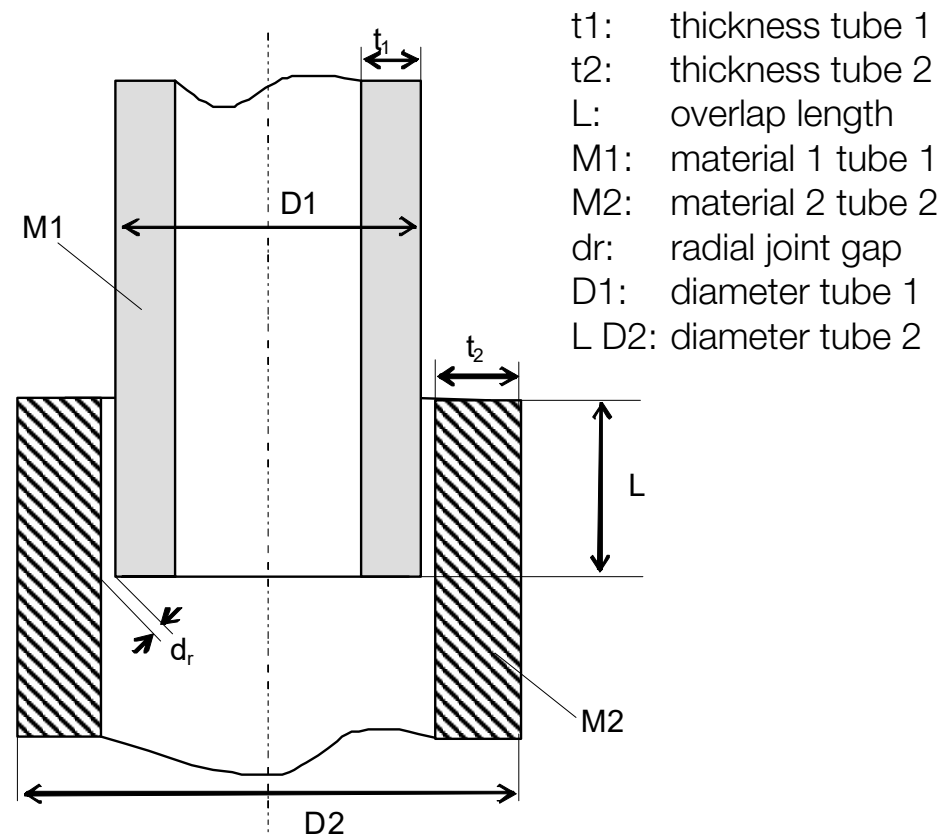

Figure 2: Schematics of a tube joint and geometrical parameters affecting quality. More details in "Design and process considerations" on page 48.
- 2 using proper overlap length (L in "Figure 2:" on 48 should be 3-4 times t1 for copper and stainless)
- 3 that material M2 in "Figure 2:" on 48 should always be the stainless steel if copper and stainless steel is to be joined
- 4 that radial joint gaps dr in "Figure 2:" on 38 are in the range presented in "Gaps width" for capillary brazing (0.05-0.2 mm)
Table 4: Approximate radial joint gaps at room temperature and brazing temperature for joining a copper tube inside a stainless tube assuming a joint gap at room temperature of 0.05 mm (0.002 inch) (following rule 3 above and the nomenclature in "Figure 2:" on page 2)